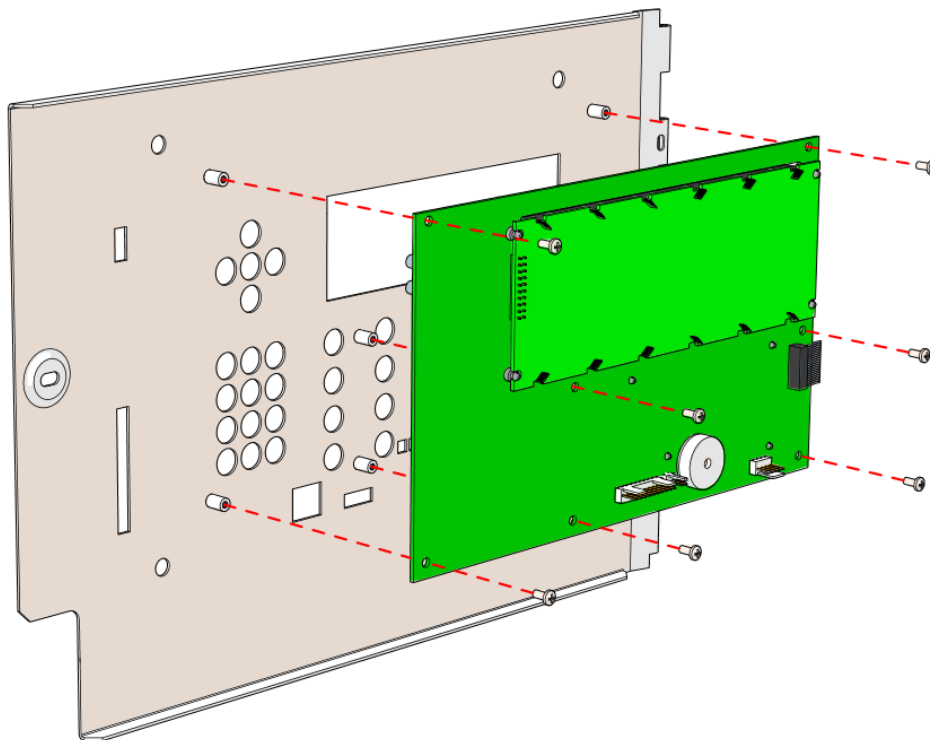

Figure 11 - NX10-ACS-DSP Module and display mounting plate.
3. Remove the seven (7) panhead screws (see Figure 11)